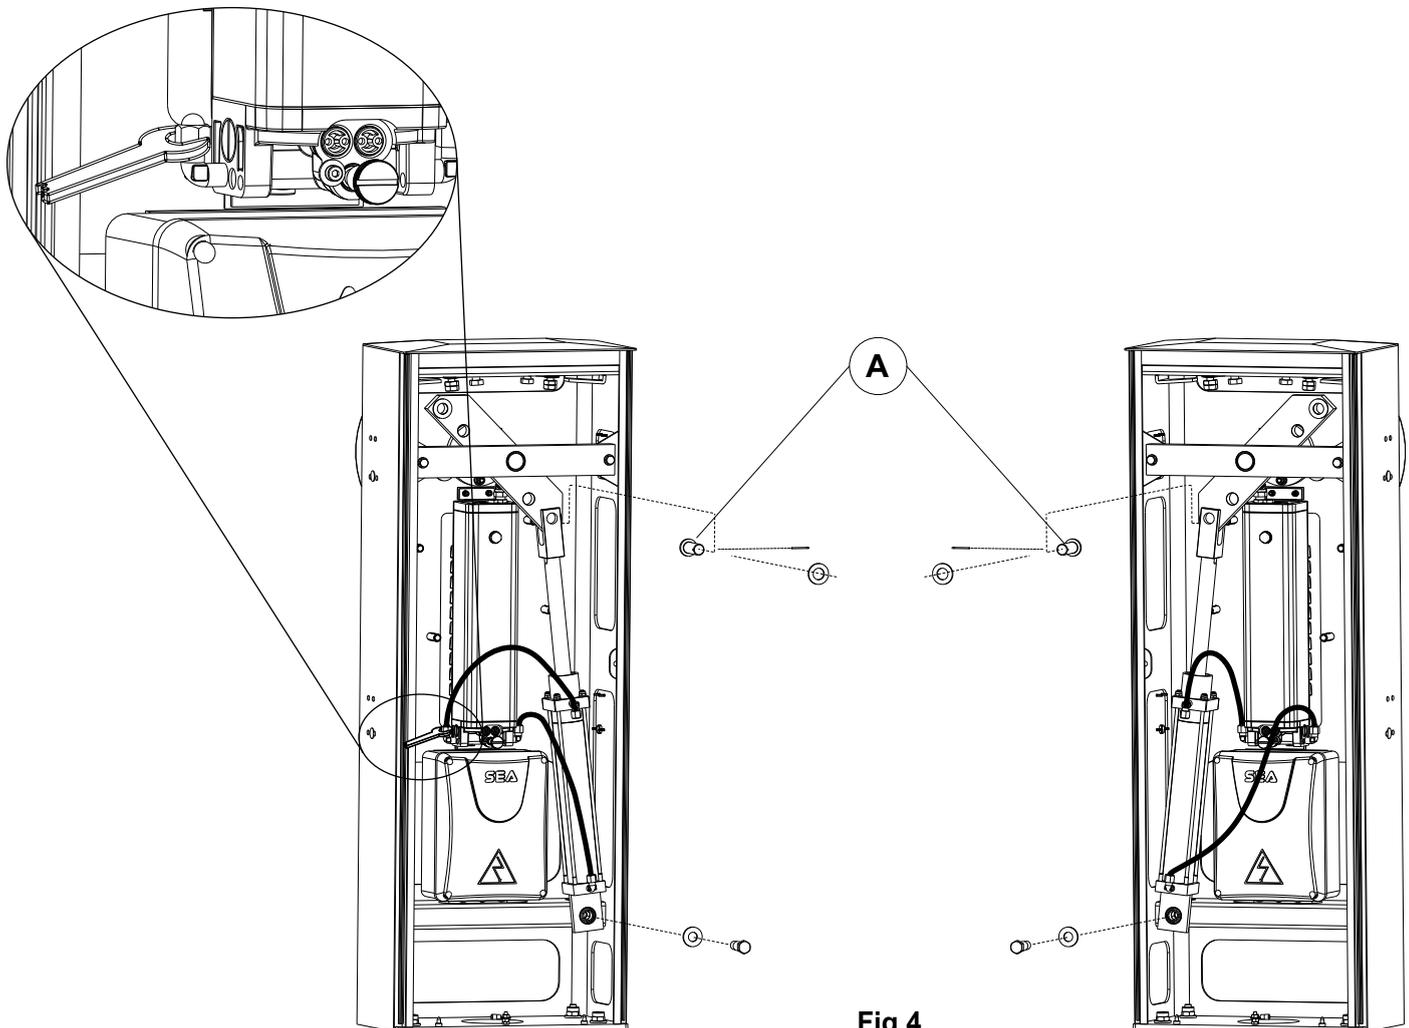

Fig.4
If the barrier is with closing on the left hand side move the piston from the right to the left hand side as shown in Fig.4 and 5.
N.B.: For the correct balancing of the beam it is recommended to unhook the piston from the balance wheel extracting the pivot as in fig.4